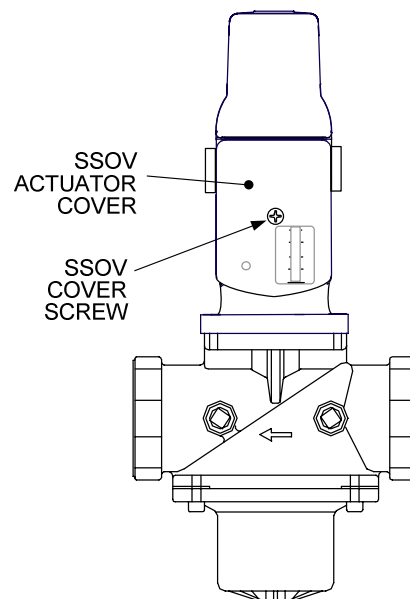

Figure 6.6
2. Remove the Safety Shut-Off Valve (SSOV) cover to access the terminal connections. See Fig. 6.6. For units with IRI gas trains, access the terminals of the downstream SSOV (see drawing SD-A-660 in Appendix F).